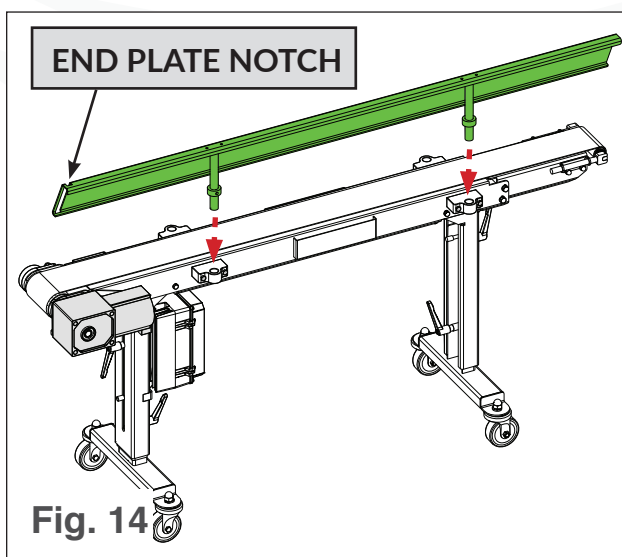

Fig. 14
- If attaching the right sidewall of the Feed Conveyor, when the wall is slotted into the conveyor bed's motor side, the top of the wall should lean away from the conveyor bed, and the end plate notch should be on **the motor end** (see Fig. 14).